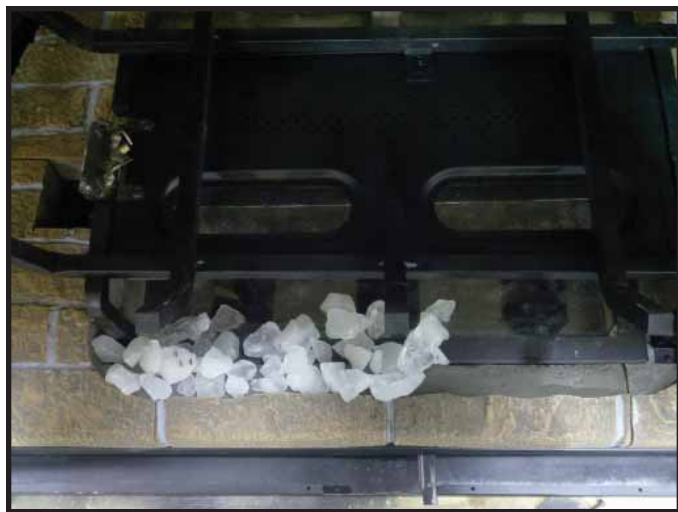

Figure 11.9. Install Teco-Sil
2. Fill in the rest of the ember glass area by placing an even layer of Teco-Sil across the bottom. Dropping the Teco-Sil through the oval holes in the burner creates a more even layer. See Figure 11.9.